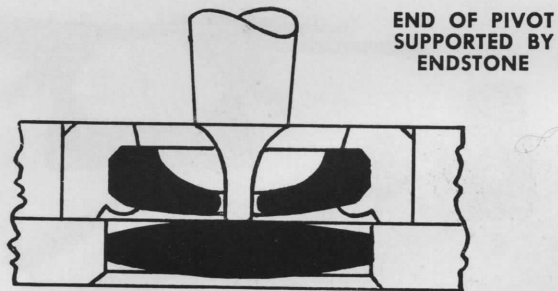

Fig. 2B
- b. The end of the pivot which rides on the endstone when the watch is in the "dial up" or "dial down" position. See Fig. 2B.